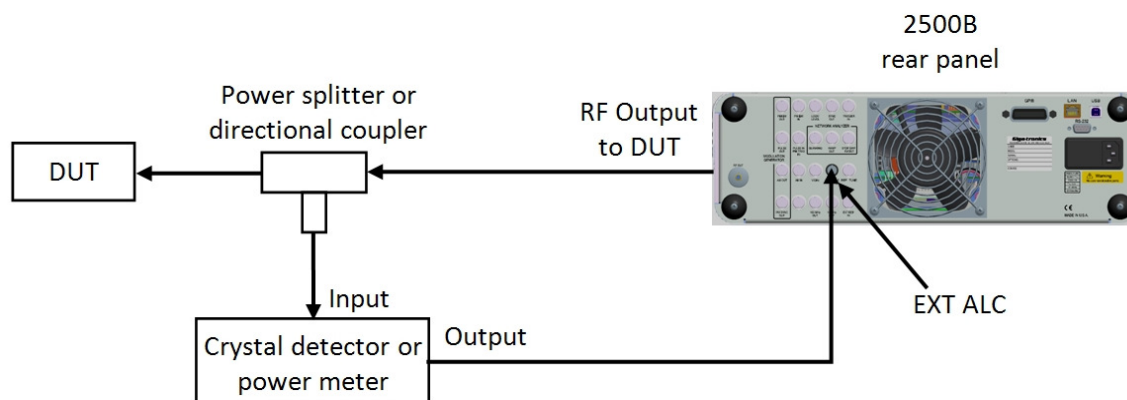

Figure 36: Setup for External ALC
With External Automatic Level Control (ALC), the power level close to the DUT is sampled by a power meter or crystal detector, and the sample is used to generate a signal that is connected to the 2500B. This signal is used to automatically adjust the RF output power of the 2500B to compensate for the power lost in the cables and fixture. See Figure 36 below.
1.	Connect the RF output of the 2500B to a power splitter or directional coupler that is placed as close to the DUT as possible. See Figure 36 on page 71.
1.	Connect the sensor of the power meter to the appropriate port of the power splitter or directional coupler. See Figure 36 on page 71.